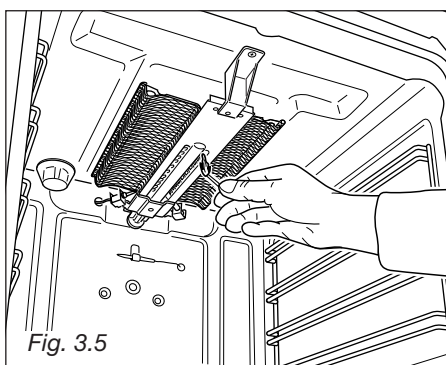

Fig. 3.5
- 3) Press the knob right down to prime the electric ignition. Keep the knob pressed. In case of power cut, press the knob and put a lighted match to the right and left side of the burner (fig. 3.5).